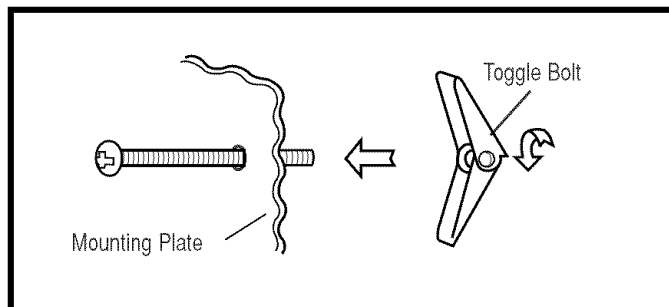

Figure 17
1. Separate 4 Toggle Bolts ②, packed in the INSTALLATION HARDWARE, from the Toggle Nuts.
3. Insert Toggle Bolts into matched openings on Mounting Plate. Put Toggle Nuts on Toggle Bolts. See Figure 17.